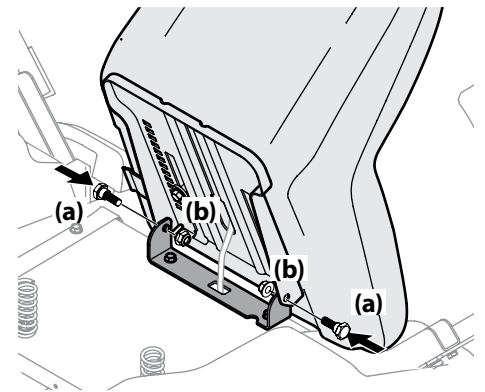

Figure 2-4
3. Rotate the seat into position and secure the seat into place with the previously removed shoulder screws (a) and lock nuts (b). Be careful not to crimp or damage the wire harness while installing the seat. See Figure 2-4.